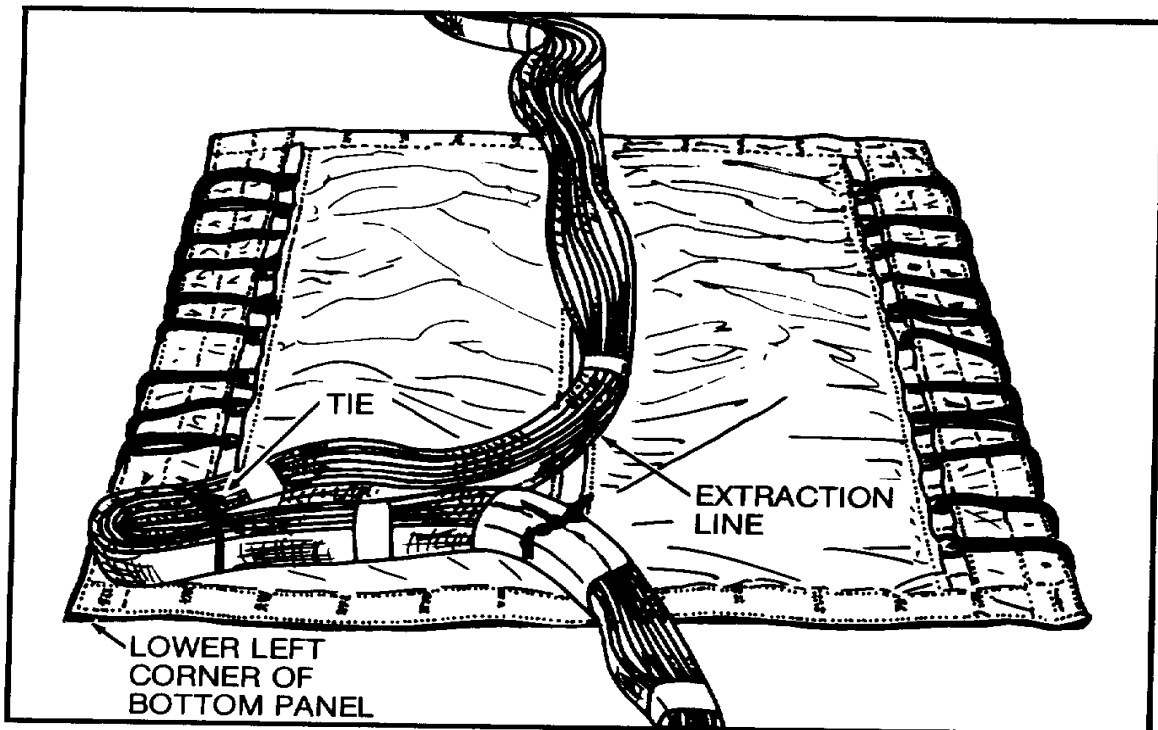

Figure 4. S-Fold of Extraction Line.
- d. Beginning at lower left corner of bottom panel, make first S-fold/stow of extraction line and secure with stow ties previously installed (figure 4).